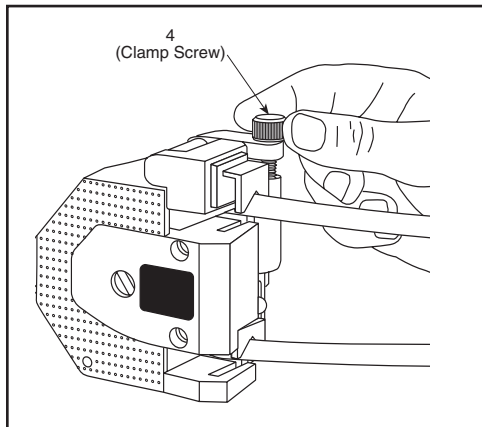

Figure 5-6. Adjusting the Clamp Screw
Once you start the pump, you may need to adjust the Clamp Screw (4) slightly, to prevent the tube from creeping (moving) through the pump. Creeping tends to occur on tubing of larger sizes and tubing made from low friction materials (for example, Santoprene). Use the following procedure to eliminate creeping. Refer to Figure 5-6.